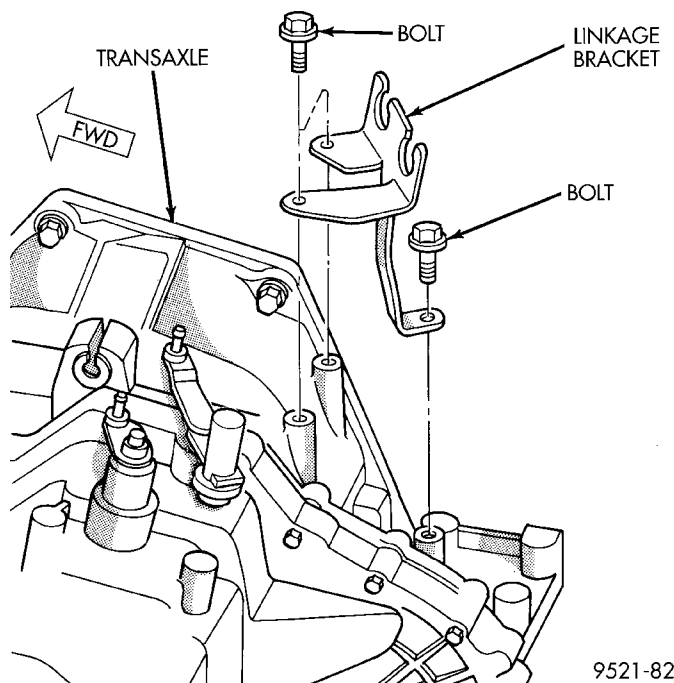

Fig. 26 Linkage Bracket Bolts
- (8) Remove shift cable mounting bracket (Fig. 26).
- (9) Remove Accelerator cable shield (if equipped).
- (10) Remove intake manifold support bracket (if equipped) and upper starter bolt.
- (11) Remove upper bellhousing bolts.